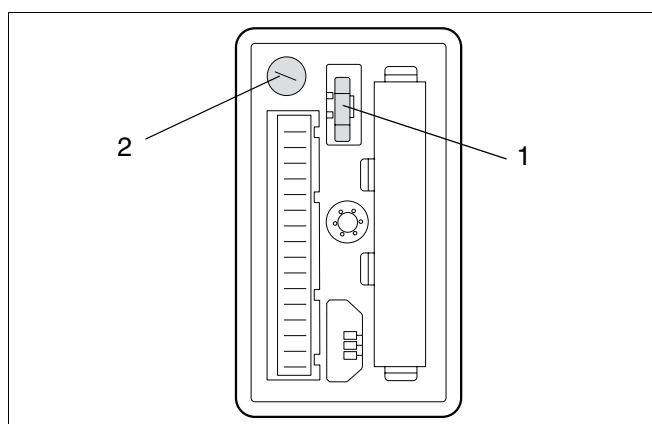

fig. 71 Checking the fuse
- Release the fuse clamp (fig. 71, item 2) by turning it to the left with a screw driver.
- Remove and check the fuse (fig. 71, item 1).